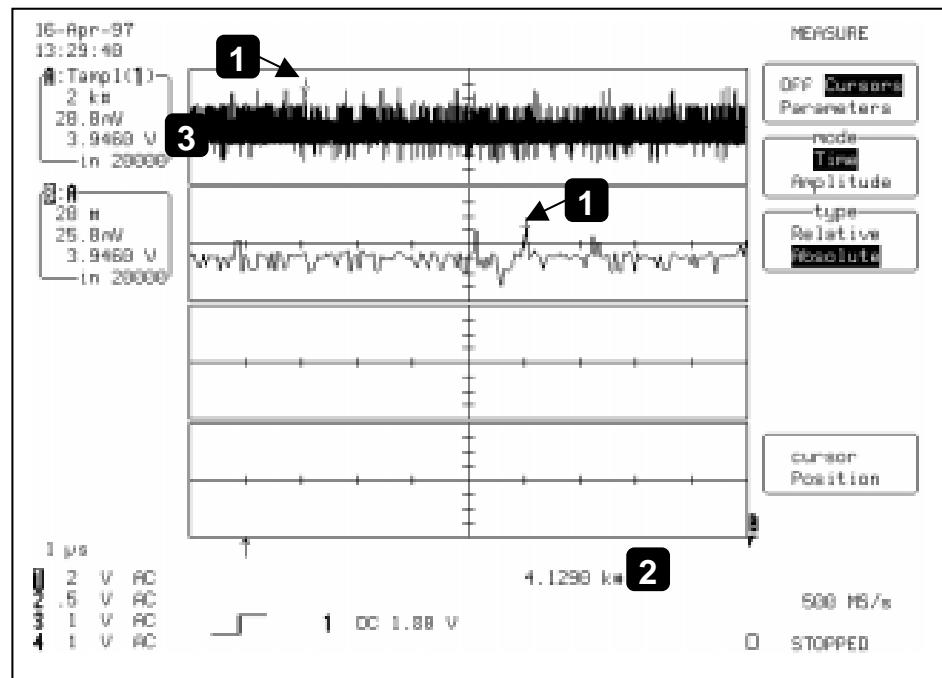

Figure 4.1
Figure 4.1 shows the Time cursors (Annotation ①) positioned on the selected trend vertex, whose order number (②) and value (③) are also shown.